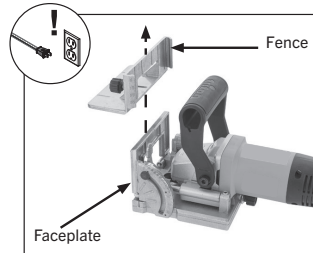

Fig. 19. Fence removed from faceplate
2. Loosen fence lock knob and then slide fence up to remove it from faceplate (see Figure 19).